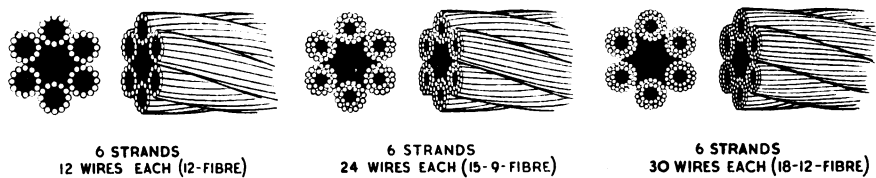

Fig. 78.—Flexible steel wire rope for hawsers and running rigging
(2) *Flexible Steel Wire Rope* (F.S.W.R.). (Fig. 78). This is used for running rigging, hawsers, and other ropes in which flexibility is necessary. To make it flexible necessitates sacrificing a certain proportion of its strength, and its strands each consist of a number of medium gauge wires wound round a large jute core.